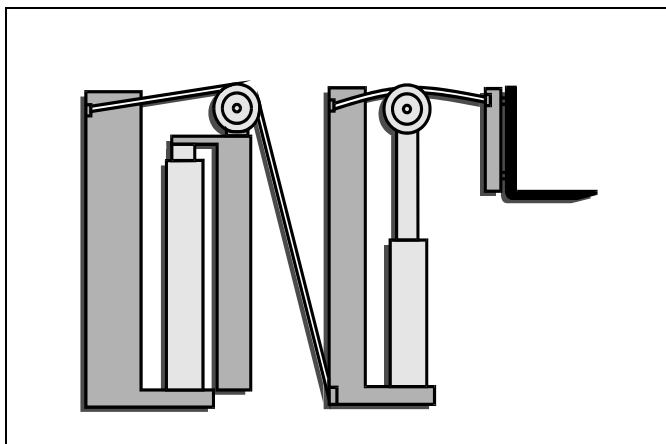

Figure 3-6 Mast in Free Lift Position
On a triplex mast, a primary cylinder is supported by the inner rails and hydraulically controlled. As the primary cylinder rod extends, a sheave and chain assembly lift the fork/carriage upward at twice the distance covered by the cylinder rod. This first stage of carriage lift is called free lift. It is the distance of lift available without increasing the overall height of the mast assembly. See Figure 3-6.
- Rail extension, in which both the middle and inner rail moves, carrying the carriage upward. See Figure 3-6.